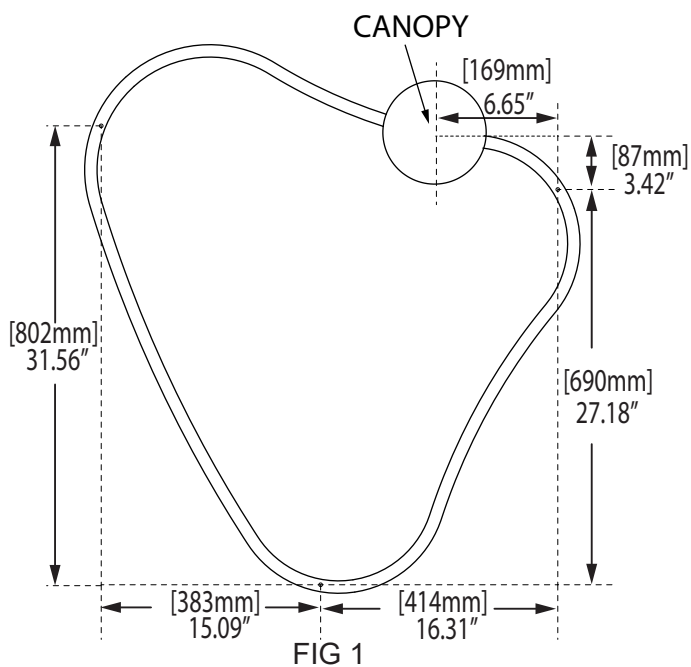

FIG 1
1. USING FIG 1 AS A GUIDE, MOUNT THE COUPLERS (x3) TO THE CEILING USING APPROPRIATE FASTENERS (NOT INCLUDED) ACCORDING TO THE STRUCTURE OF THE CEILING